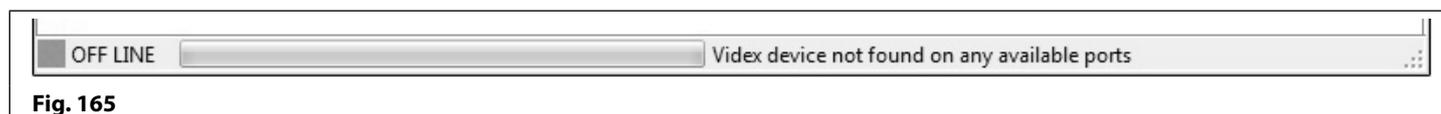

Fig. 165
- **OFF LINE:** see **Fig.165**, this indicates that the GSM module has not been detected by the GSMSK software and is not connected. Note that when the connection status is showing as **OFF LINE** the 'Data' and 'Sort' top menu options are 'grayed' out and not available. These menu options will only become available when the software is connected to the GSM module and showing as **ON LINE**. To get the GSM module back **ON LINE** refer to the following notes: **GSM panel detection** and **Connecting the Software to the GSM module (ON LINE)** on page 16.